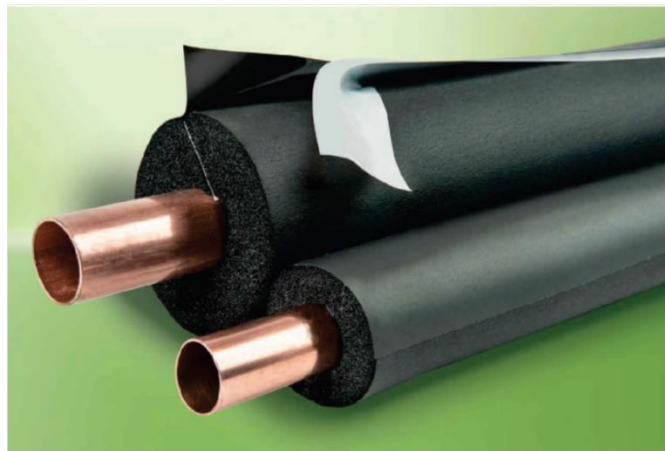

FIGURE 2 – Flexible Armaflex foam pipe insulation with easy to seal angled cut
- Insulate the feed hose with $\frac{1}{2}$ " thick foam pipe insulation as shown in Figure 2. One example brand of pipe insulation is Armaflex which is a soft and flexible elastomeric pipe insulation used in HVAC applications. It has an angled cut opening for more surface area for a better bond. Other brands of pipe insulation may be available at your local hardware stores. To find this type of insulation you may have to get it from a local plumbing or mechanical supplier in your area. The recommended size for $\frac{3}{4}$ " feed hoses is 1-3/8" ID with $\frac{1}{2}$ " wall thickness.